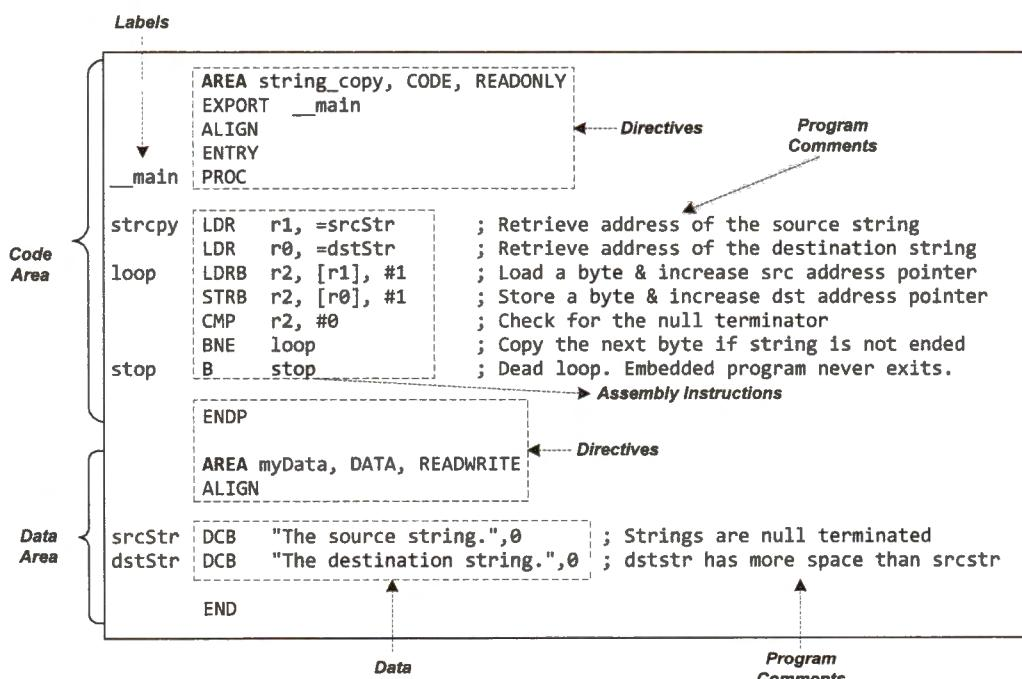

Figure 3-6. An example assembly program
Let us take a quick look at a complete assembly program, as shown in Figure 3-6. The program copies a string to another string. An assembly program includes labels, directives, assembly instructions, and program comments.
2. The *directives* provide valuable information for assisting the assembler. The example in Figure 3-6 uses the following directives. PROC and ENDP declare the start and the end of a function (or called a subroutine). END indicates the end of an assembly program file. AREA defines code or data regions. ENTRY designates the initial entry into the program. ALIGN specifies the requirement of memory address alignment. DCB allocates and defines data.
The example assembly program in Figure 3-6 has two areas: a data area and a code area.